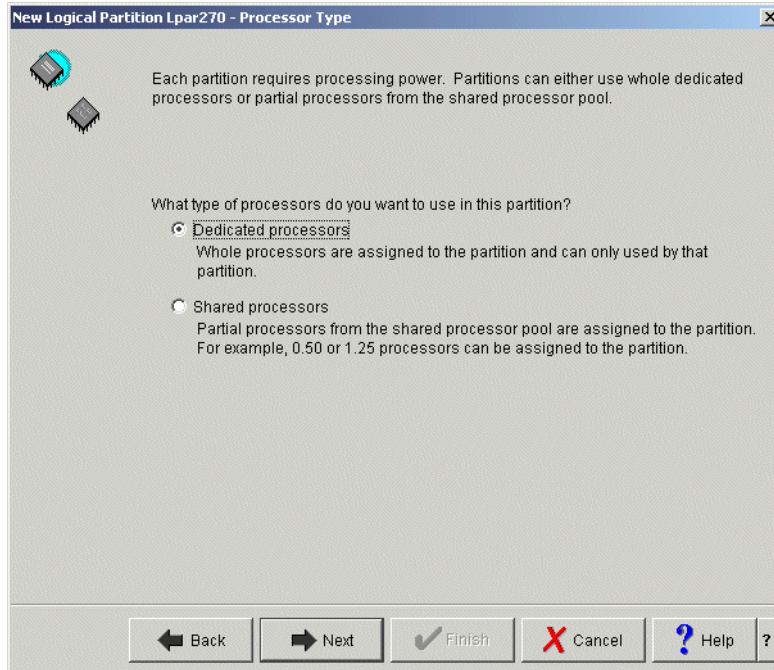

Figure 4-14 New Logical Partition - Processor Type window
11. The New Logical Partition - Processor type window appears as shown in Figure 4-14.